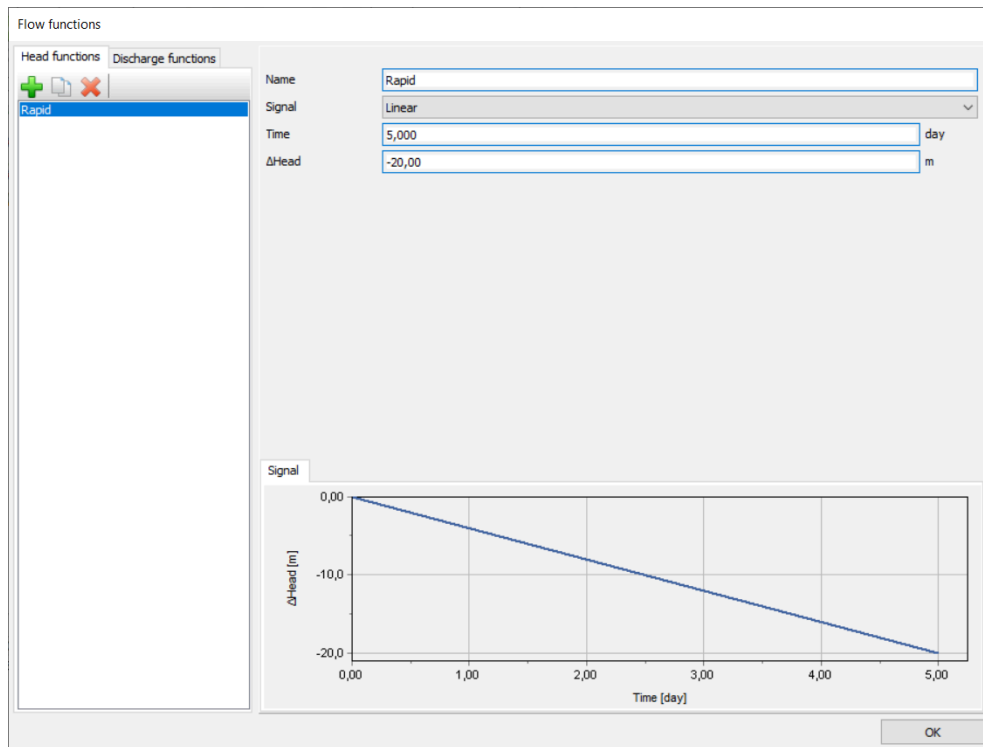

Figure 7–7: The flow function for the rapid drawdown case
- d. Specify a time interval of 5 days. Figure 7–7 \(p. 141\) shows the defined function.